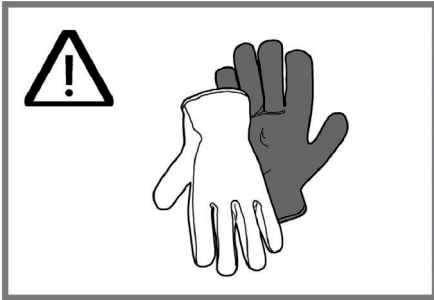

Fig. 13
- Parts inside the appliance may have sharp edges. Use protective gloves (Fig. 13).